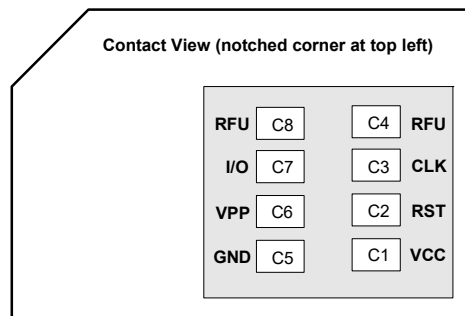

Figure 3-4: SIM Card Contacts (Contact View)
a. See Figure 3-4 on page 31 for SIM card contacts.